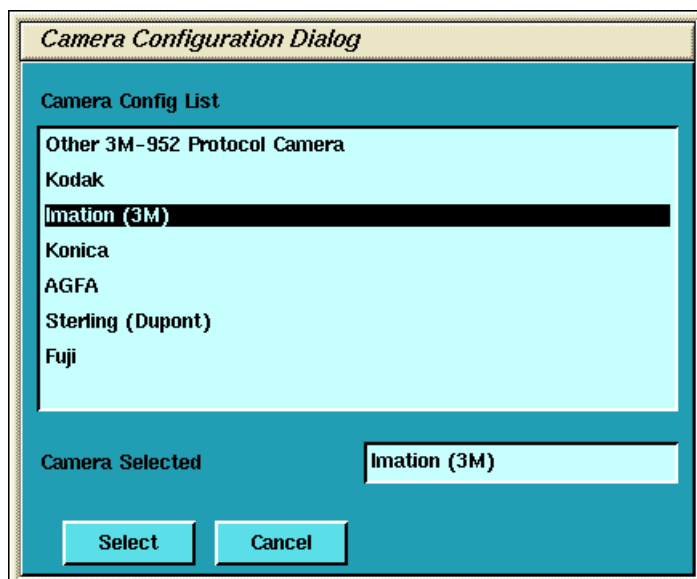

Figure 4-4 Camera Model Dialog (with DASM)
- 5.) To add a new laser camera, click DASM in the camera type dialog box. This brings up a list of available camera models. Select the appropriate model from the list and click SELECT (See Figure 4-4). Now configure it.